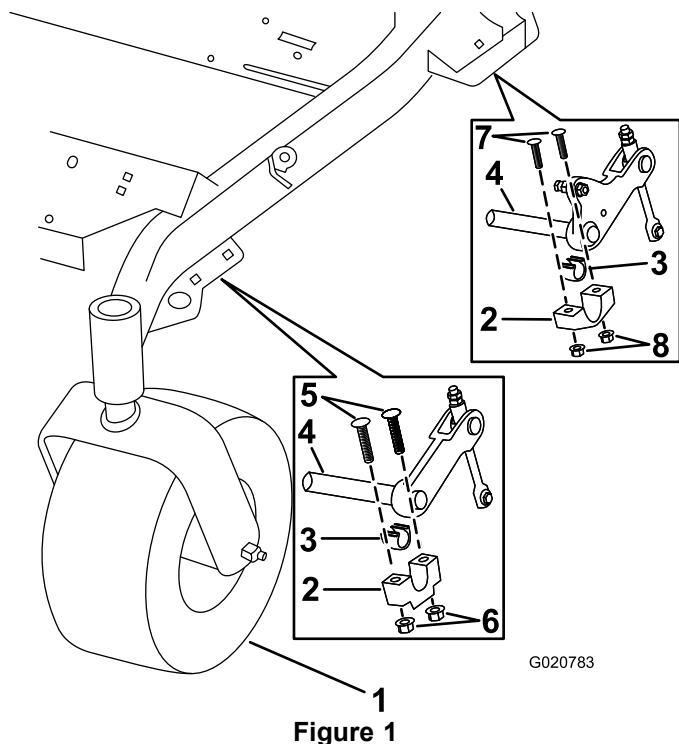

Figure 1
2. Remove the carriage bolts (1/2 x 2-1/2 inches), the cross shaft support bearing, and the flange nuts (3/8 inch) from the front right of the frame (Figure 1).
6. Remove the carriage bolts (3/8 x 1-3/4 inches), the cross shaft support bearing, and the locknuts (1/2 inch) from the back right of the frame (Figure 1).